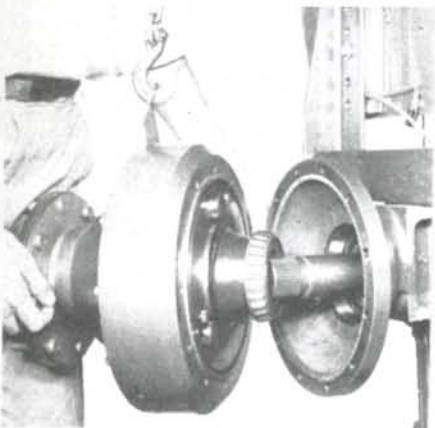

Fig. 228—Attach a lifting eye and hoist as shown to support wheel axle and planet carrier during removal and installation.
**185. REMOVE AND REINSTALL.** To remove the wheel axle and planet carrier as a unit, support rear of tractor and drain oil from final drive planetary unit. Remove wheel and tire unit and fender assembly. Apply parking brake to ensure that brake plates will remain aligned in case axle shaft is withdrawn with planetary unit. Scribe a line across drive cover (4—Fig. 230), ring gear (15) and axle housing (25) to ensure proper alignment when reassembling. Remove top bolt from drive cover and install a suitable lifting eye as shown in Fig. 228.